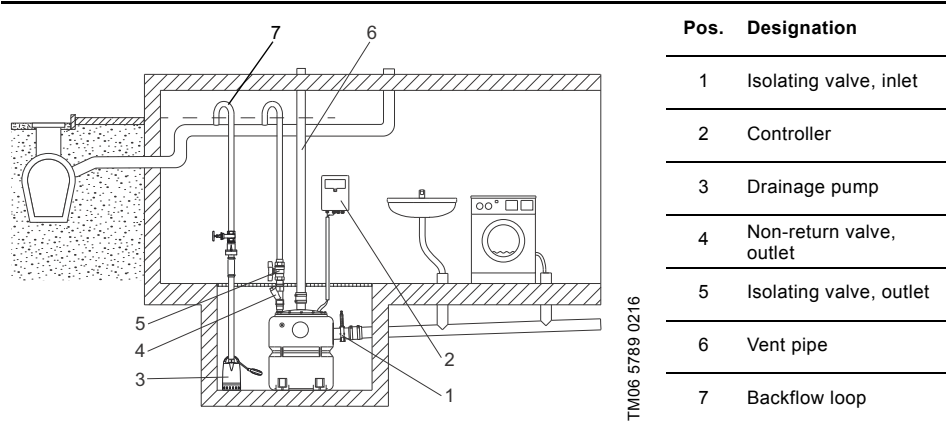

Fig. 1 Installation example with a tank in a sump and with a controller. The diaphragm pump is not shown.
- The volume of the outlet pipe above the non-return valve up to the backflow loop must be smaller than the effective tank volume. See pos. 7 in figures 1 and 2.